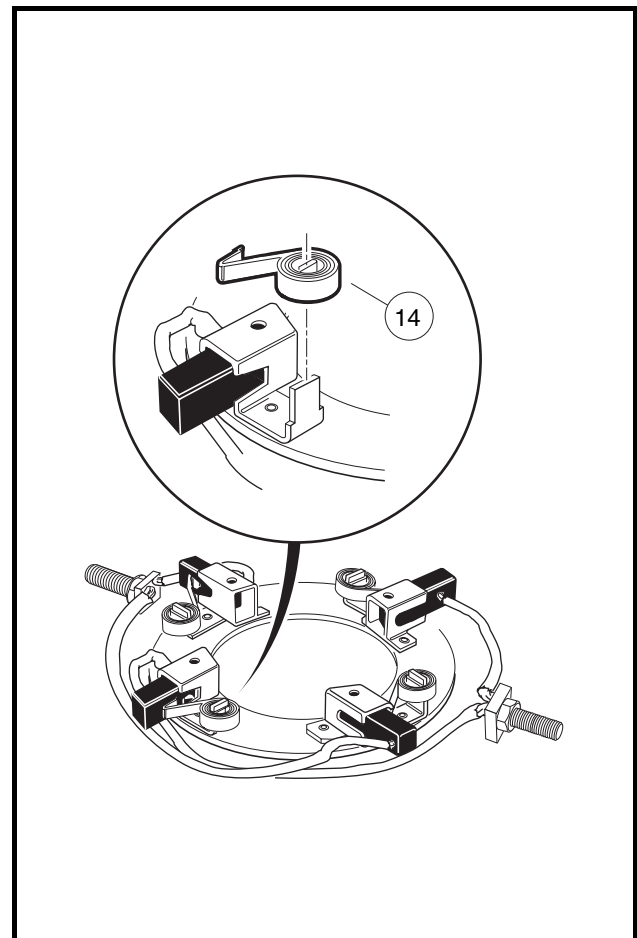

Figure 15-5 Brush Spring Removal
8. To remove brush springs (14) from the rigging, lift the spring extensions out and over the brush mounts and then slide the springs off their mounting tabs (**Figure 15-5, Page 15-4**).
- 2.2. One at a time, push brush spring extensions back from brushes and slide the brushes back until they are completely retracted into their mounting slots. Then position the brush springs against the sides of the brushes so that spring pressure will hold them in the retracted position (**Figure 15-5, Page 15-4**).